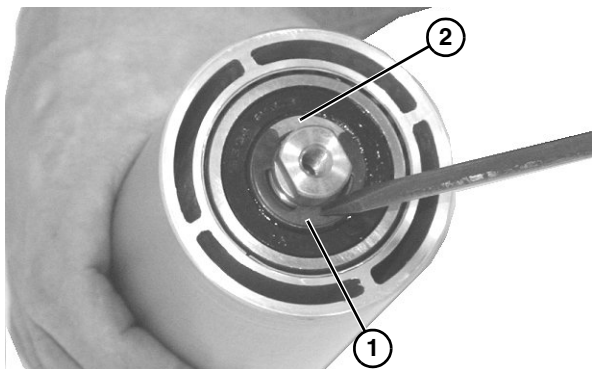

Figure 37
5. Remove the spindle shaft assembly: remove the clip ring (**Figure 37, item 1**) and washer (**Figure 37, item 2**) from one side of the spindle assembly.